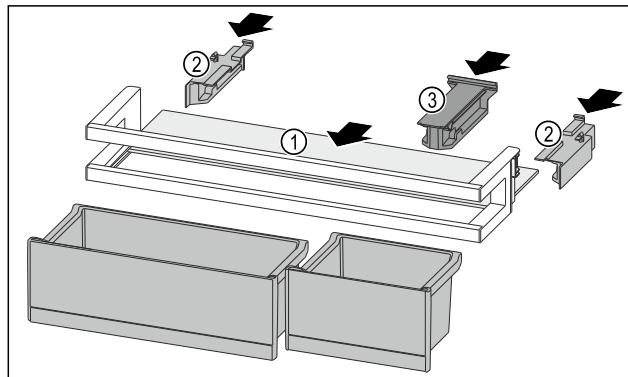

Fig. 151
- ▶ Push the shelf Fig. 151 (1) into the side recesses.
- ▶ Insert the side parts Fig. 151 (2).
- ▶ Insert the holding part Fig. 151 (3).